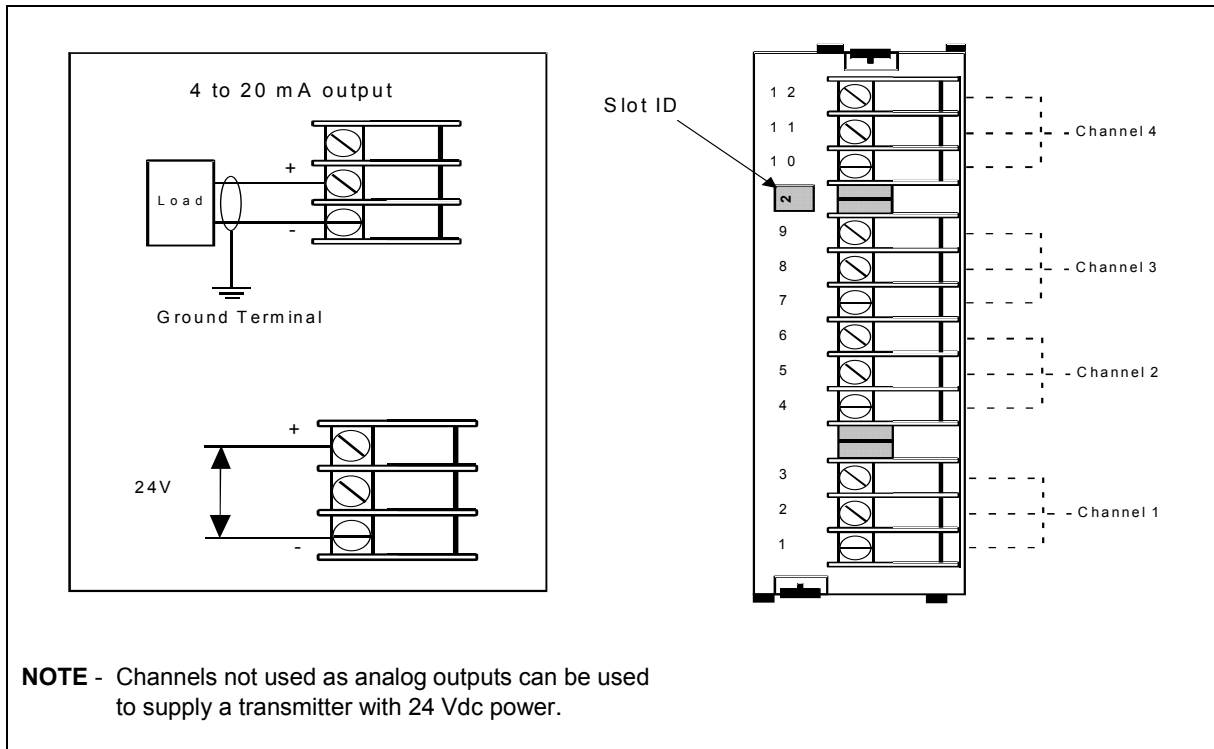

Figure 2-4 AO Board Terminal Block Connections
The Analog Output (AO) board provides four outputs at 0 to 20 mA (configurable for 4 to 20 mA or any span between 0 to 20 mA). When not used for an analog output, an output channel may be used to power a transmitter with 24 Vdc power. The video recorder will support up to two AO boards, for a total of eight outputs. Figure 2-4 shows the terminal connections for the AO board. See Section 1 for details on all I/O board specifications.
Figure 2-4 shows the terminal block connections for the DC output and AC output DO boards. See Section 1 for details on all I/O board specifications.